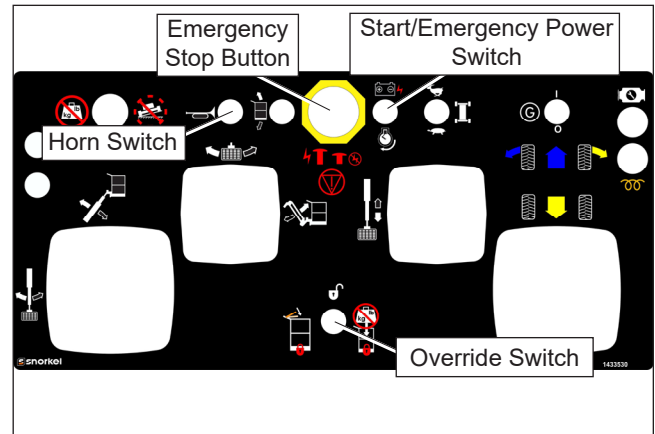

Figure 7.12 – Upper Controls
3. At the upper controls (refer to Figure 7.12), pull the emergency stop button outward.
Hold the horn switch (refer to Figure 7.12) upward to ensure that it sounds to warn personnel in the area.
3. At the upper controls, pull the emergency stop button outward (refer to Figure 7.12).